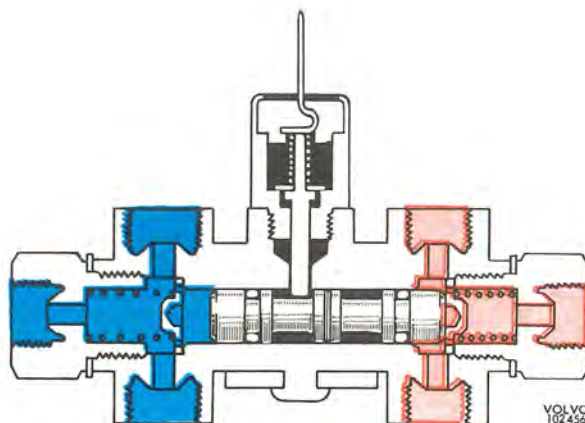

Fig. 5-40. Warning position
It is only when the pressure in the secondary circuit first exceeds that in the primary circuit by about 10 kPa/cm² (142 p.s.i.) that the pistons are pushed so far to the right that the guide pin (4) can be pressed downwards. When this happens, the switch washer (2) reaches the housing (3) and current is cut in (Fig. 5-40). The guide pin is prevented from returning to its normal position until the fault has been rectified and the warning switch (3) removed.